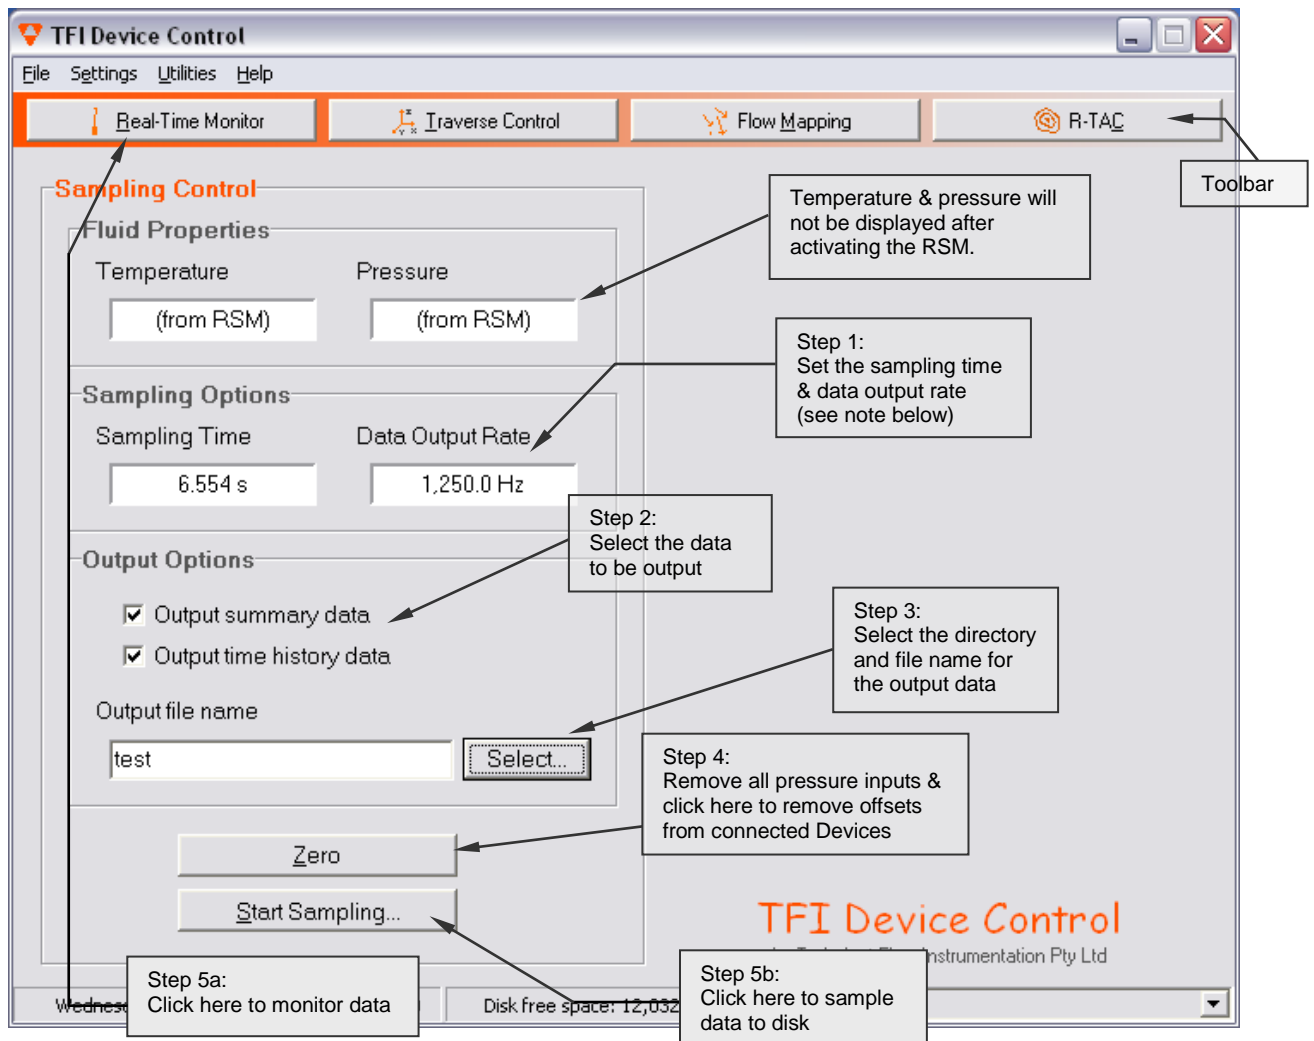

Figure 8: The Main screen of the *TFI Device Control* software & how to obtain data
The sensors in the RSM can be used to determine air density for calculating air speeds. For example, this means that it is not necessary to manually enter temperature and absolute pressure when using a Cobra Probe. Figure 8 shows how to use the temperature and barometric pressure data from an RSM for this purpose.
Figure 8 shows the main screen that appears when the *Device Control* software is run. The steps shown in the figure below indicate how to obtain data from connected Devices.
There are two common data output files: plain text summary files and binary time-history (TH) files. The summary files contain an overall summary of the measured data. The TH files contain data from the connected devices for each measured sample, at the specified **Data Output Rate** (see Step 1, Figure 8). The TH files can be viewed within the Device Control software or directly loaded into MATLAB®. For use with other programs, such as spreadsheet applications, the binary TH files can be converted to plain text files.